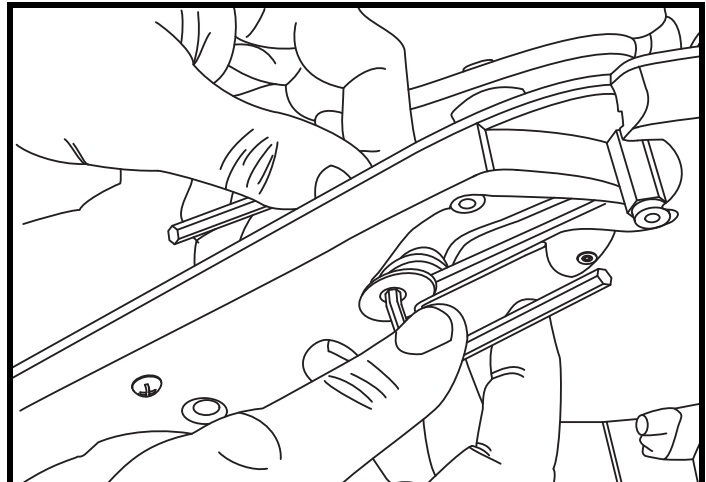

Figure 38. Changing Extension Force Spring (Kids FAST)
8. Check for smooth resistance. If spring binds, it may be necessary to loosen bolt in 0.25-in. (0.64-cm) turn increments until action is smooth. See figure 38.